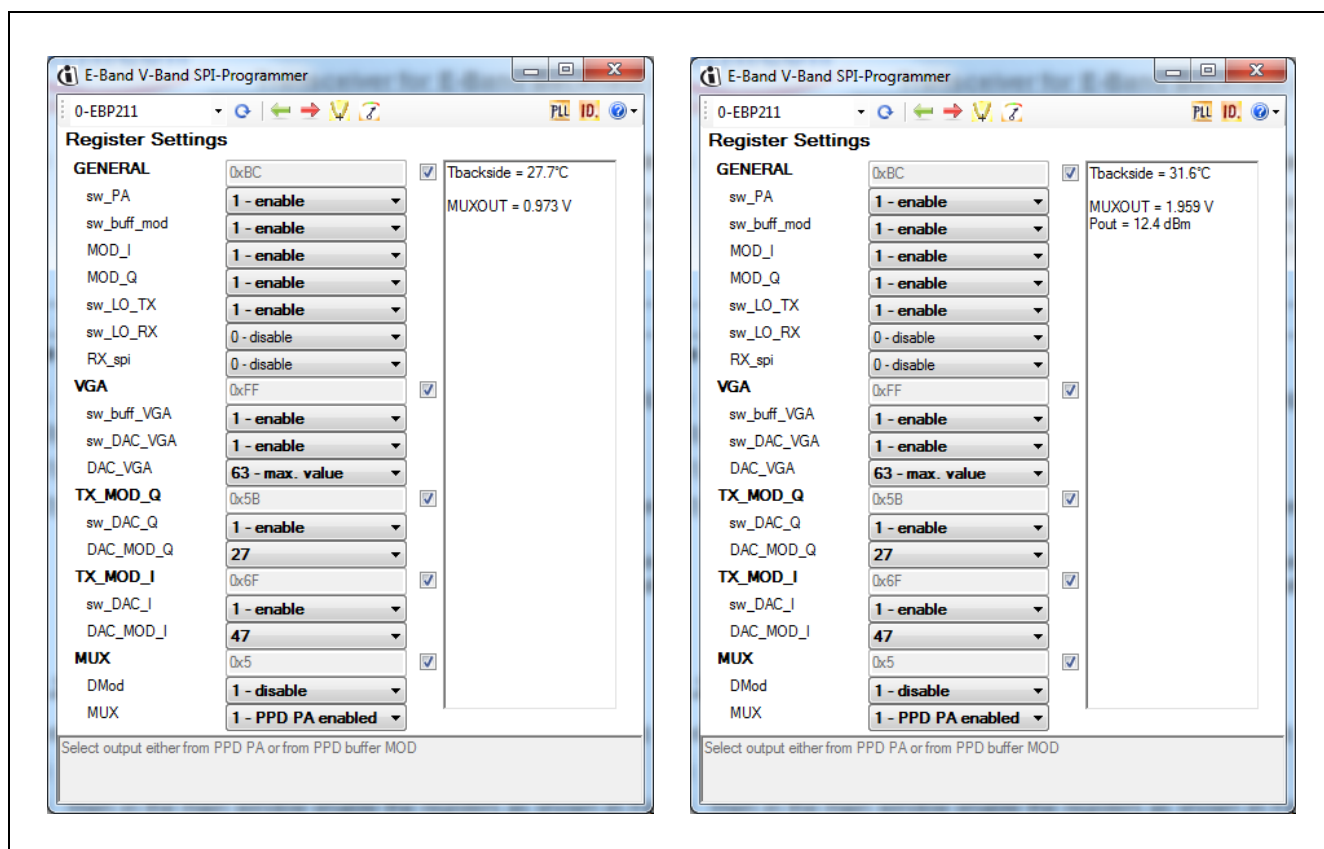

Figure 24 Typical Transmitter Settings for the BGT80
- 8) Before you proceed to this step make sure that there is **no IF signal applied to the TX IF inputs**. Then in the main window press  button. This step will automatically execute the LO leakage calibration and set the right value to the **DAC_MOD_Q** and **DAC_MOD_I** registers. The current consumption in this case will jump to 550mA. The typical setting for the Transmitter would look like as shown in **Figure 24**. After LO calibration is done, IF can be applied to TX IF inputs of BGT80.